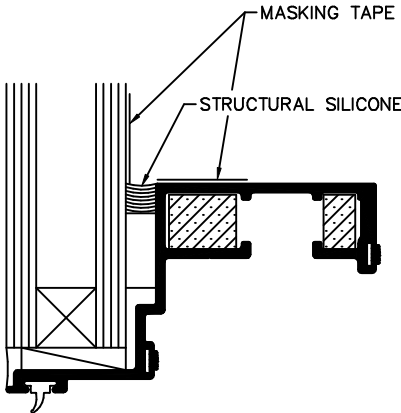

FIGURE 5
- 9. APPLY MASKING TAPE AS SHOWN IN FIGURE 5.